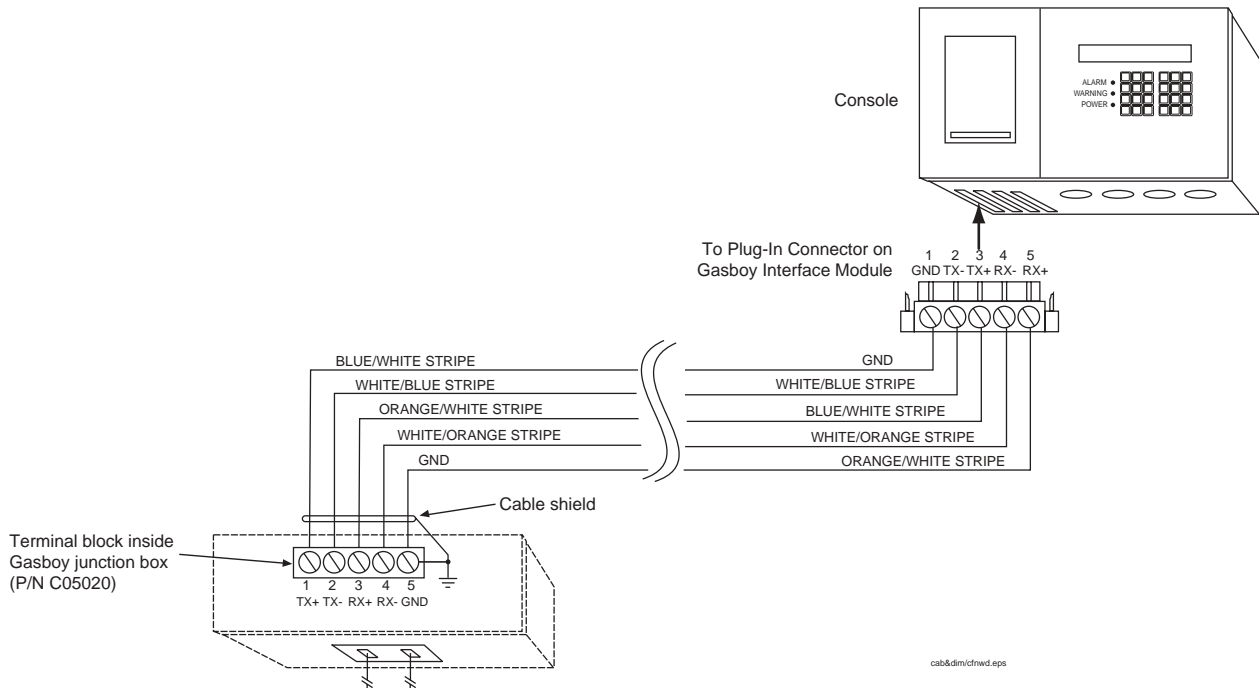

Figure 7. Junction box to console wiring diagram
- Refer to Figure 7 and locate the terminal block inside the Gasboy junction box (P/N C05020).
- Connect the cable leads to the Gasboy terminal block as shown in Figure 7. If the cable must be shortened, remove any excess at the console end of the cable (the connector can be easily disassembled and reassembled). Junction box screw terminal positions could vary, so refer to manufacturer’s installation manual. When wiring to the junction box, keep wires physically separated by spacing them away from any other wiring or conduits.
2. Refer to Figure 7 and locate the terminal block inside the Gasboy junction box (P/N C05020).
3. Connect the cable leads to the Gasboy terminal block as shown in Figure 7. If the cable must be shortened, remove any excess at the console end of the cable (the connector can be easily disassembled and reassembled). Junction box screw terminal positions could vary, so refer to manufacturer's installation manual. When wiring to the junction box, keep wires physically separated by spacing them away from any other wiring or conduits.